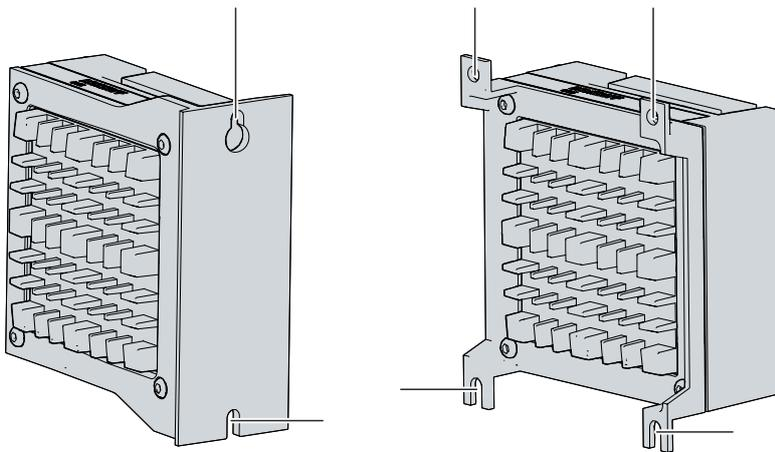

Fig. 21: C6015 _Position of the fastening screws
2. Lift the PC until the fastening screws slide into the keyholes (see Fig. 21).